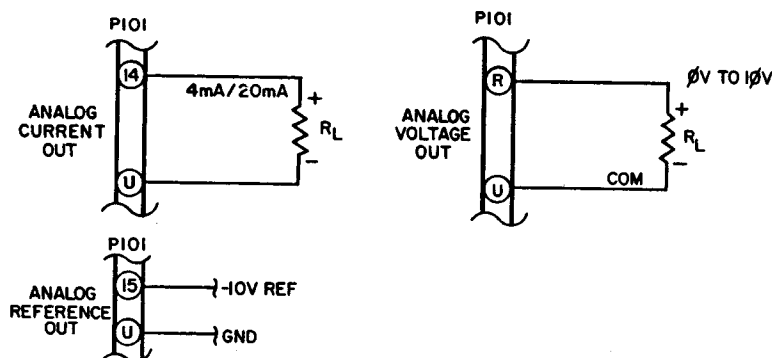

Figure 6. Analog Output Connections
2.7 Option A Connections (Analog Output) (refer to Figure 6)